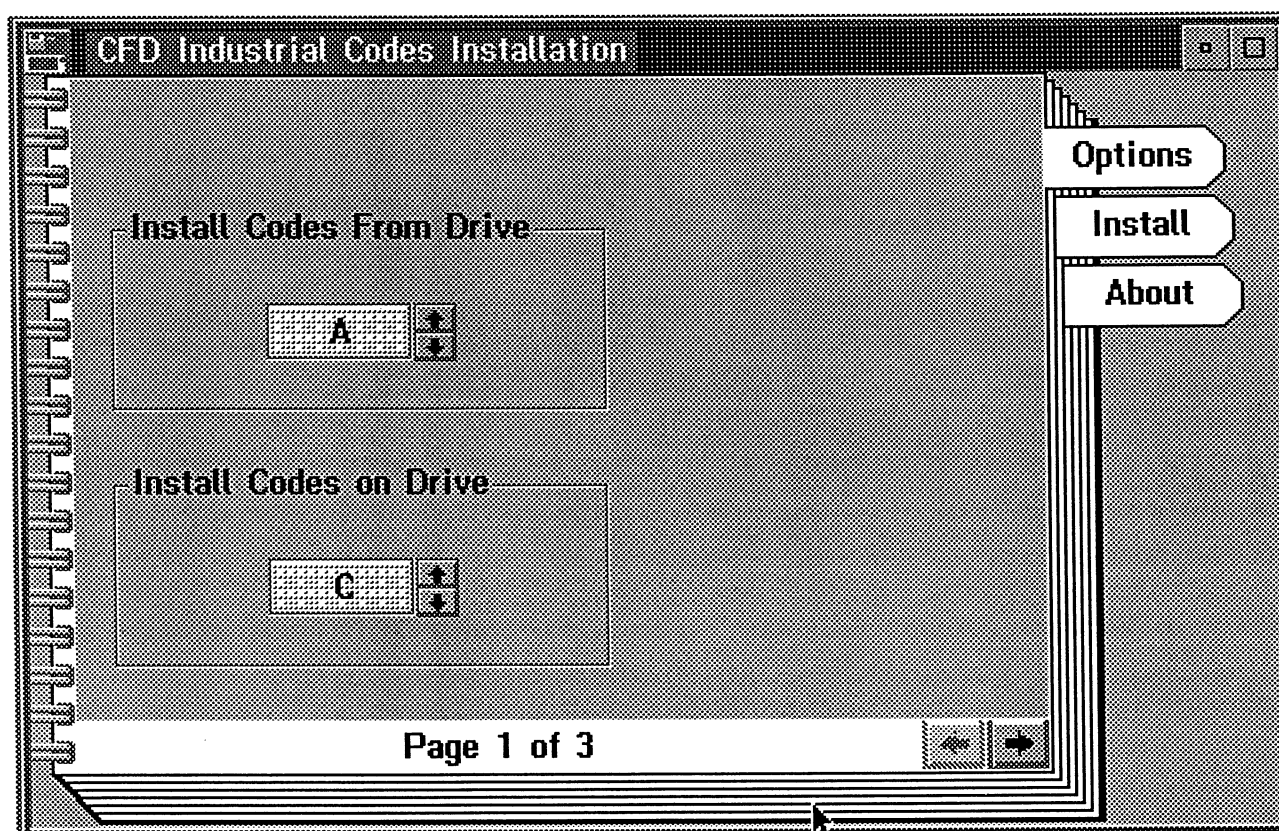

Figure 1: Installation Program - Options Page
- ☐ If you are working in an OS/2 window or full screen session, make the floppy drive the default drive and type **install** to run the installation program. From the OS/2 desktop, open the floppy drive icon in icon view. Double-click on the install.exe icon to start the installation program. The main window of the program is a notebook with three pages as shown in Figure 1.